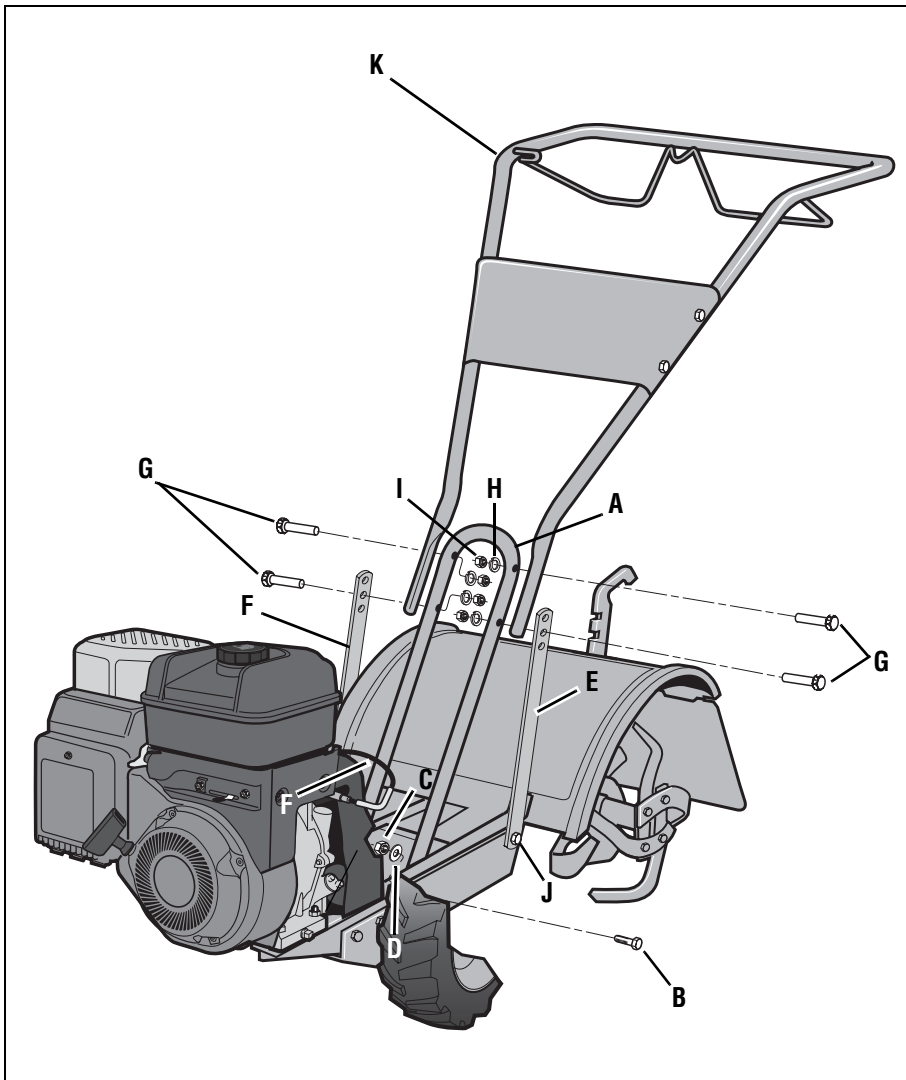

Fig. 2.2: Attach handlebar.
1	Handlebar Support (see A, Fig. 2-2)
1	Handlebar Assembly (see K, Fig. 2-2)
1. Loosely attach the legs of the handlebar support (A, Fig. 2-2) to the inner sides of the tiller frame using two 3/8"-16 x 3/4" hex hd. screws (B), 3/8" flat washers (C), and 3/8"-16 hex locknuts (D).
2. Using two 5/16"-18 x 1-1/2" screws (G), 5/16" split lock washers (H) and 5/16"-18 hex nuts (I), loosely attach the handlebar support (A) using the upper holes. Tighten the two screws securely.
3. There are three height adjustment holes in the two handlebar support brackets (E and F, Fig. 2-2). Use a setting that will position the handlebars at approximately waist level when the tines are 3"-4" into the soil. Loosely attach the support brackets **to the outside of** the handlebar assembly (K) using two 5/16"-18 x 1-1/2" screws (G), 5/16" split lock washers (H) and 5/16"-18 hex nuts (I). **NOTE:** If a support bracket will not move, loosen attaching screw (J) and nut.